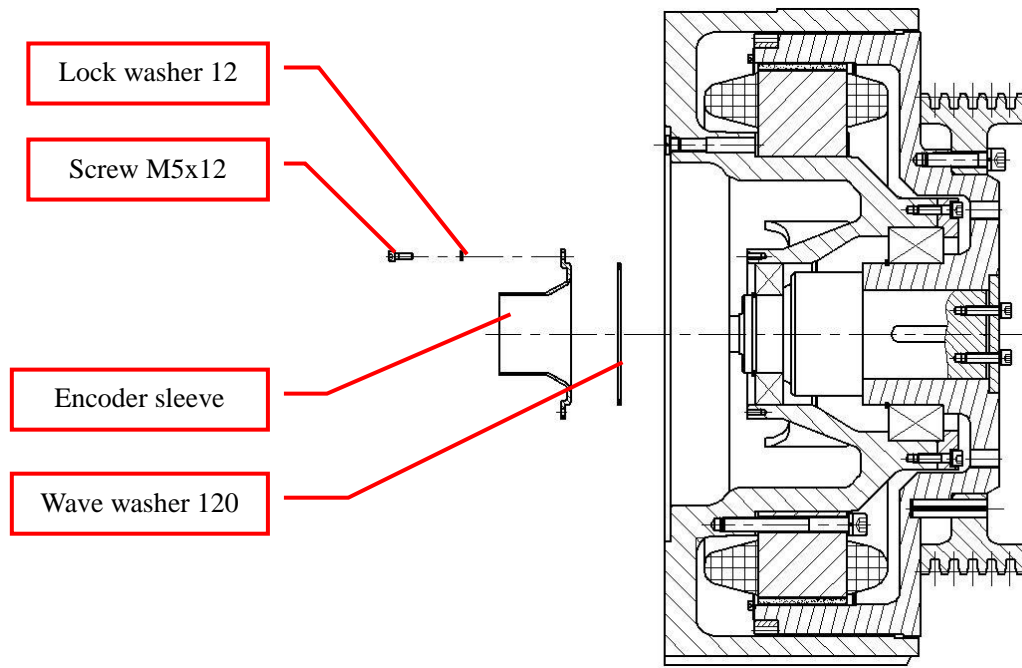

Figure 56: Install Encoder sleeve
7. Install the wave washer 120 into the bearing hole of the machine base, then install the encoder sleeve, and install the screws M5x12 and lock washers 5 into the corresponding threaded holes (apply some threaded glue into the threaded holes), then tighten the screws M5x12 to 5Nm. See Figure 56.